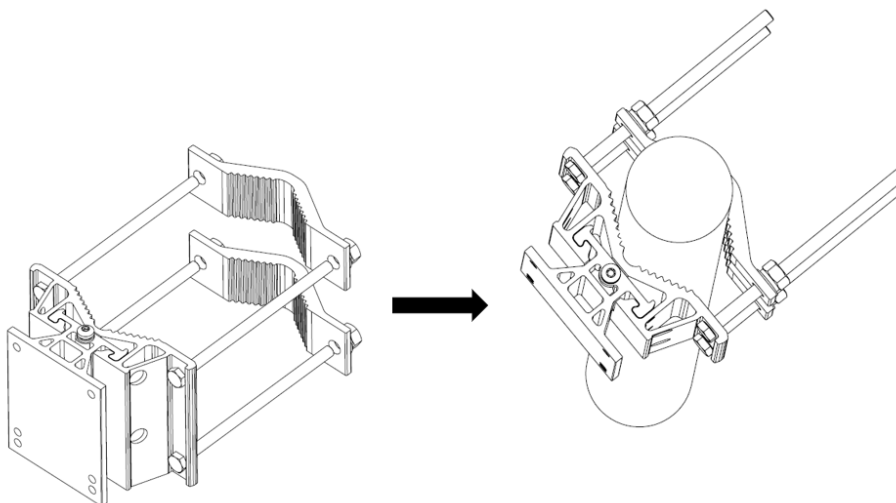

Figure 3-19 Installing the ORRU mounting brackets
Step 2: Installing the mounting brackets onto the pole and tighten the nuts on the bolts, as shown in Figure 3-19.